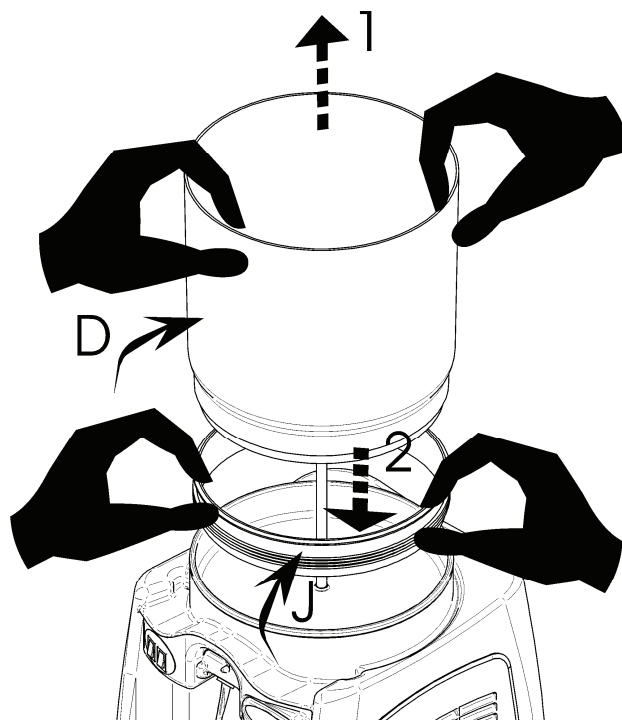

Figure 8
5°.-Gently pull out the tank (D) throwing (1) of him up (Fig.8).
6°.-Remove the rubber seal (J) from the tank throwing (2) up (Fig.8).